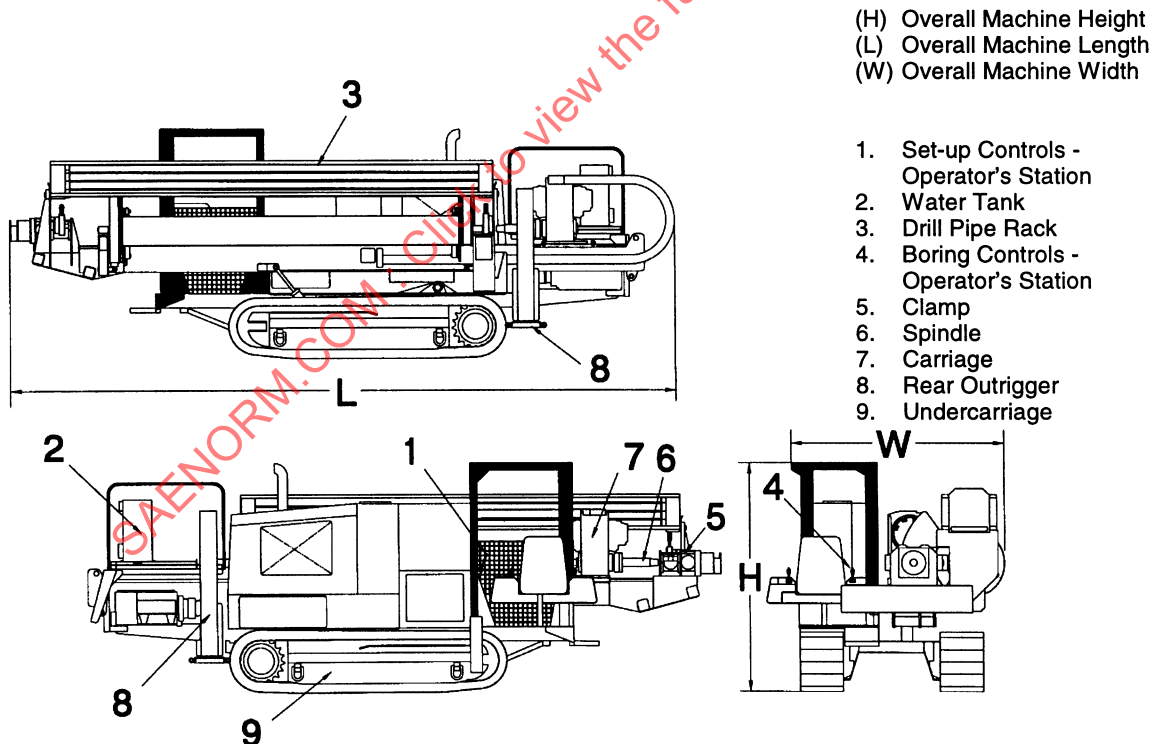

FIGURE 8—DIRECTIONAL BORING/DRILLING MACHINES—RIDE-ON UNITS
4.5.1.2 *Ride-On Units*—Refer to Figure 8.